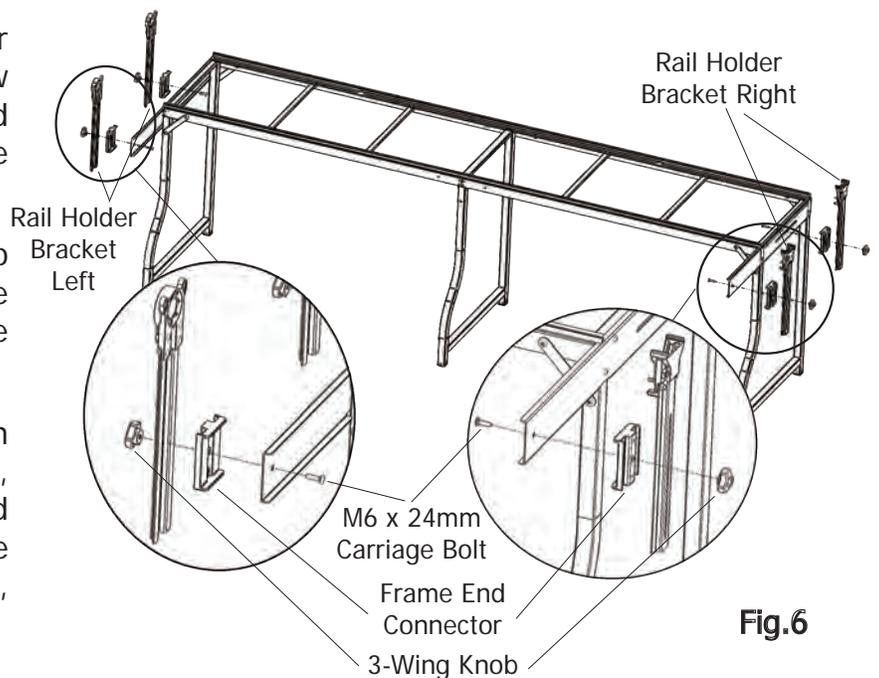

Fig.6
6-2: Place the Rail Holder Bracket Left onto the Frame End Left. Make sure that the bracket is placed on the right direction, see Fig. 6.
6-3: Place a M6 x 24mm Carriage Bolt in the inside hole on the Frame End Left, followed by the frame End Connector, and then the Rail Holder Bracket. Lock the assembly together with a 3-Wing Knob, see Fig. 6.
6-4: Assemble the other Rail Holder Bracket Left onto the Frame End Left the same way as first one except locating the bracket at the end of the frame end, where there is a screw hole, see Fig. 6.
6-5: Assemble the (2) Rail Holder Bracket Right on the other side of the frame by repeating the above steps once again. See Fig. 6. Assembly steps are the same for crib size frame, see Fig. 6-1.